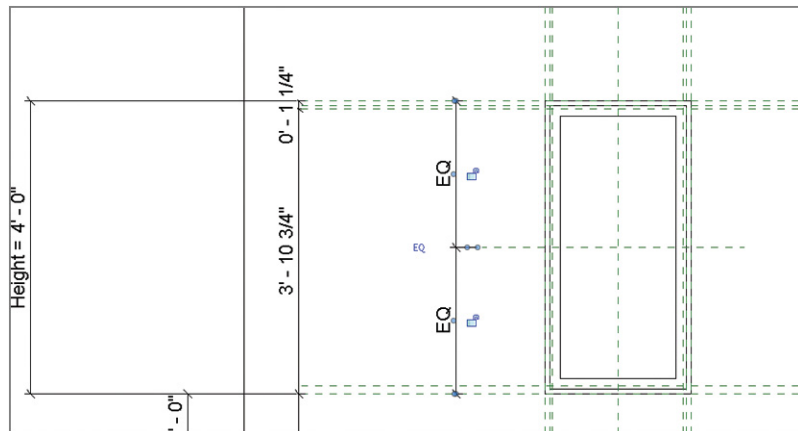

FIGURE 6.35 Adding a new reference plane and keeping it equally spaced
5. Go to the Modify tab's Measure panel, and click the Aligned Dimension tool. Create a continuous dimension between the two outermost horizontal reference planes and the new plane you created in step 4. Click the temporary EQ icon that is active when you select the dimension just created to establish an equality constraint (Figure 6.35). In other words, no matter how the window height changes, the new reference plane will remain centered.